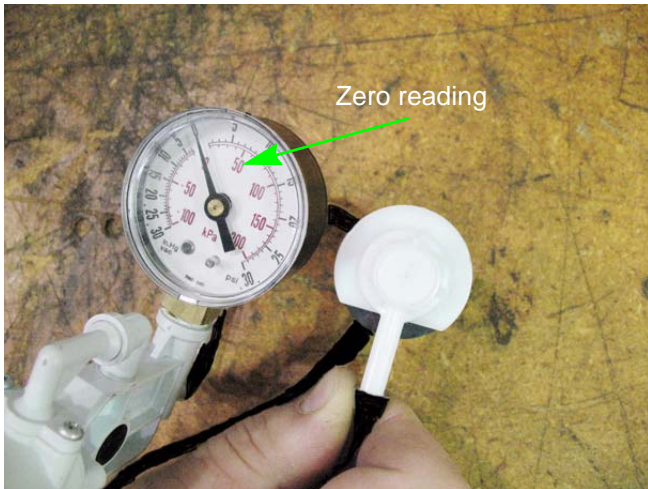

Figure 4.19
5. With the vacuum still applied, turn the roll over valve over. See Figure 4.19.